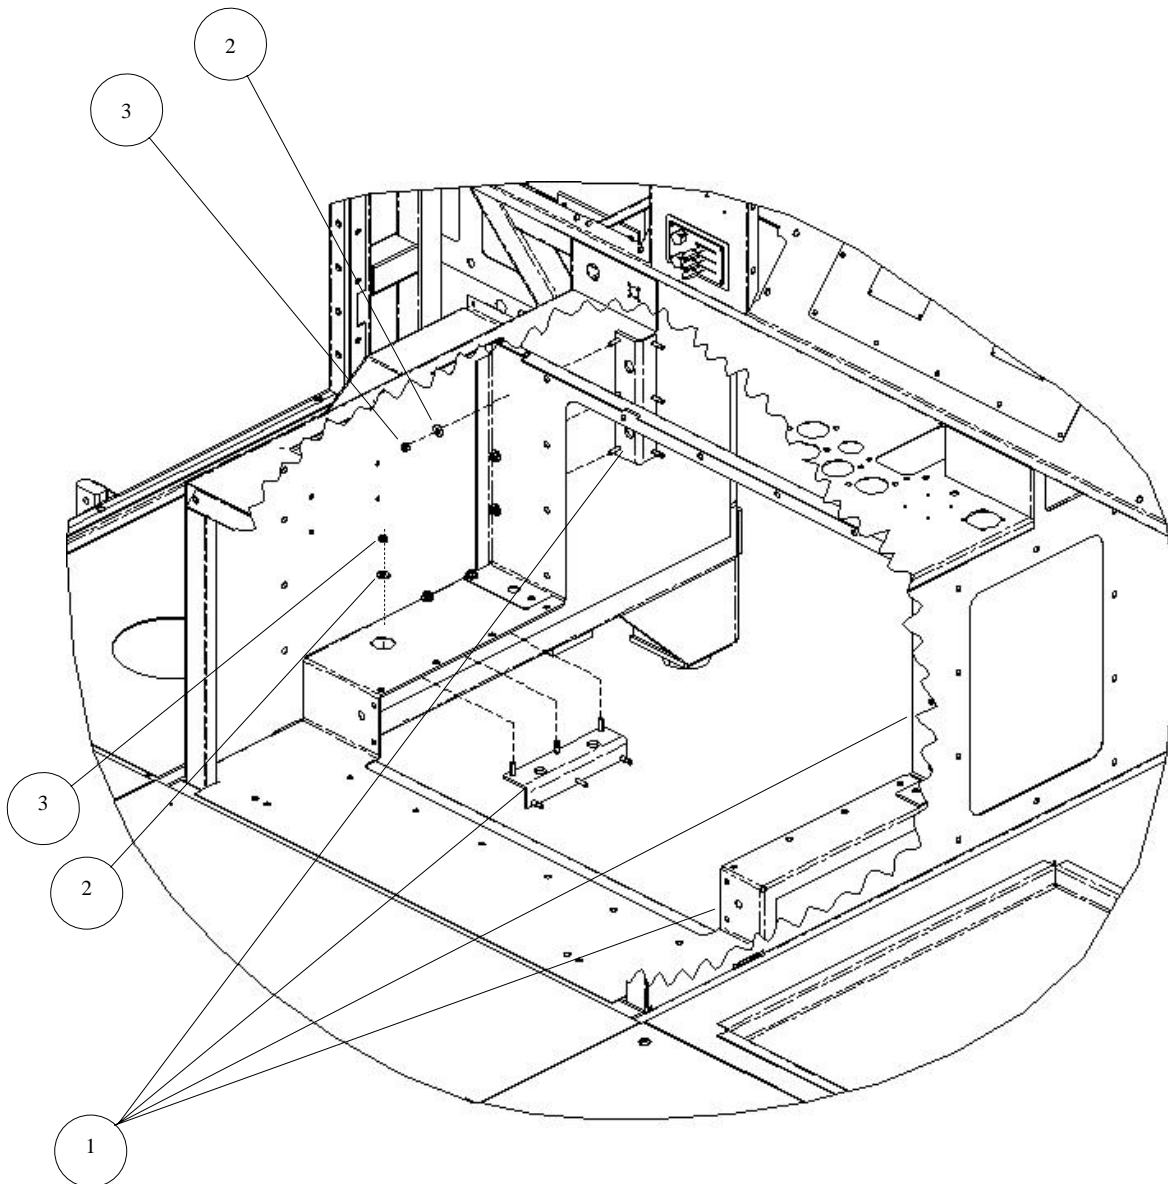

**Figure 3-42. Match-Drill Frame Rail.**
4. Match-drill frame rail as follows (see Figure 3-42):
The following procedure is used for each of the six holes shown in Figure 3-42.